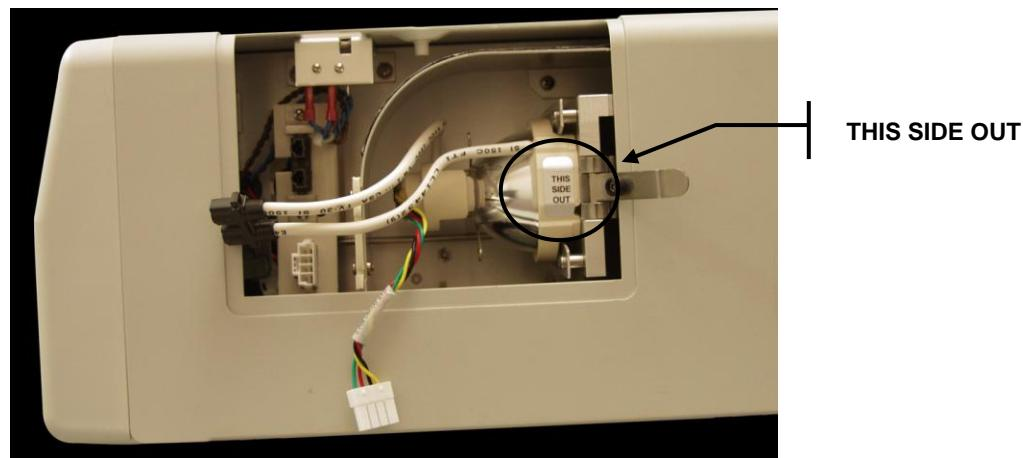

Figure 5 Lamp Orientation
4.1.5 Position the lamp so that the two leading edges of the lamp ceramic mount slide into the groove of the lamp bracket. The middle of the lamp should be in position to fit into the spring clamp. Reference Figure 5
Tip: Make sure that the "This side out" label is facing outwards before trying to insert the lamp as illustrated below. Reference Figure 5
- 4.1.6 Slide the lamp all the way in so that both leading edges of the lamp ceramic mount are in the groove of the lamp bracket. The middle of the lamp will snap into the spring clamp. Close the lamp bracket arm. Reference Figure 5